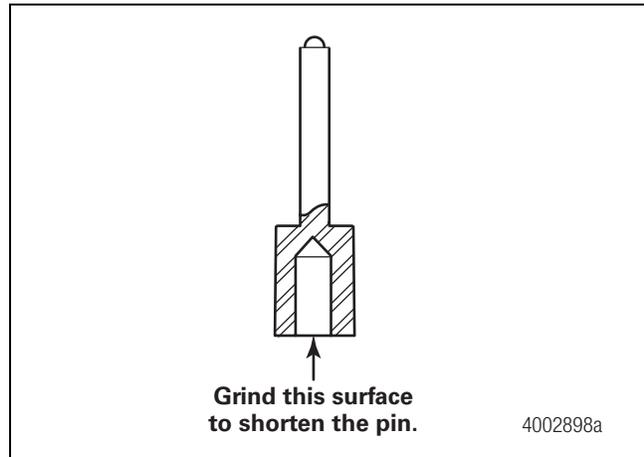

Figure 8.6
- B. Grind the bottom of the anvil pin as needed. Figure 8.6.